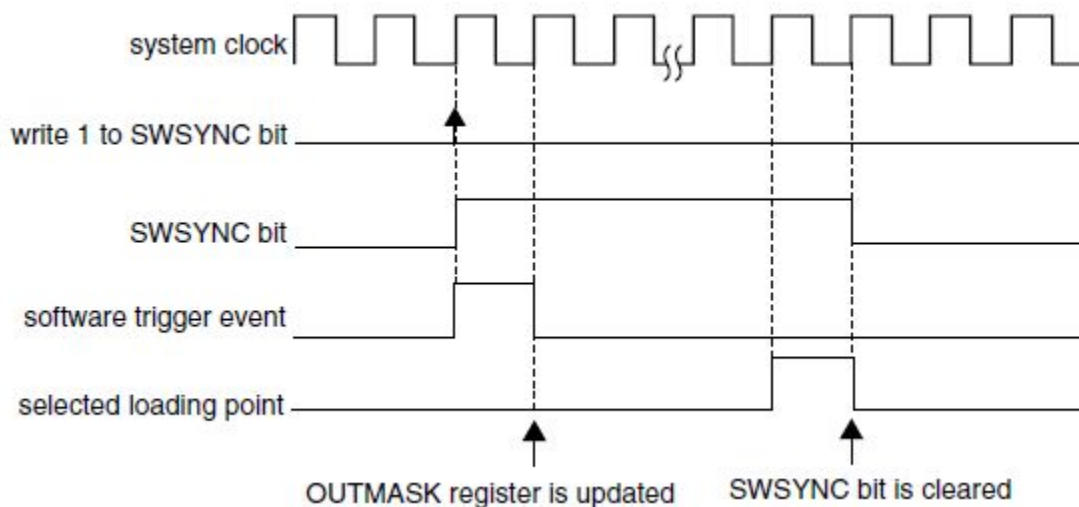

Figure 4. OUTMASK Synchronization with `SYNCONF[SYNCMODE] = 0`, `SYNC[SYNCHOM] = 1`, `MODE[PWMSYNC] = 0` and software trigger was used
- If the trigger event was a software trigger, then `SYNC[SWSYNC]` is cleared on the next selected loading point. See Figure 4.